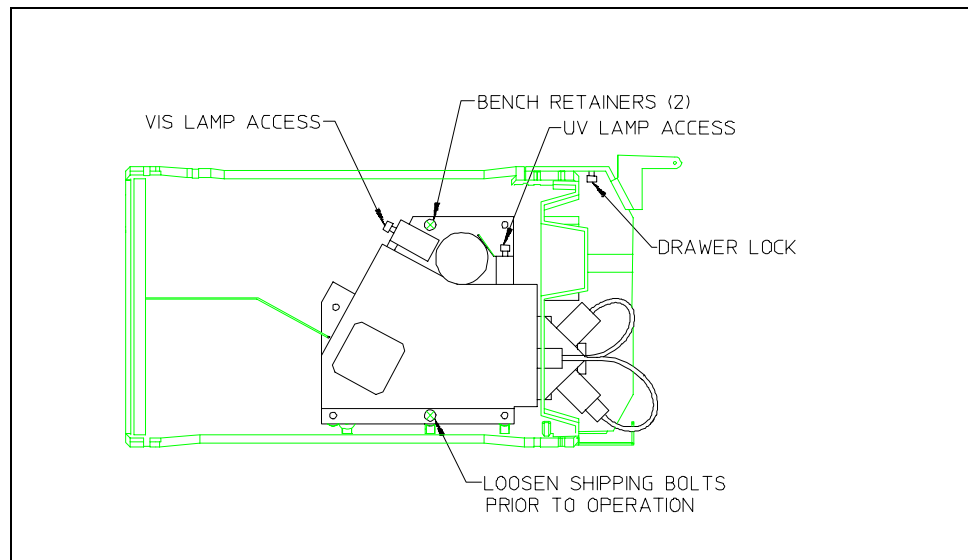

Figure B-2. Optical Bench Shipping Bolts
2. Open the door to the optical chassis (the lower unit of the AD20 enclosure). Loosen the drawer lock (see Figure B-2) and pull open the drawer to the first stop.
3. Two bolts clamp the optical bench to the optical chassis drawer (see Figure B-2) to prevent shipping damage. Loosen the screw on each shipping bolt three turns. Note: If it is ever necessary to reship the detector, remember to first retighten these screws.